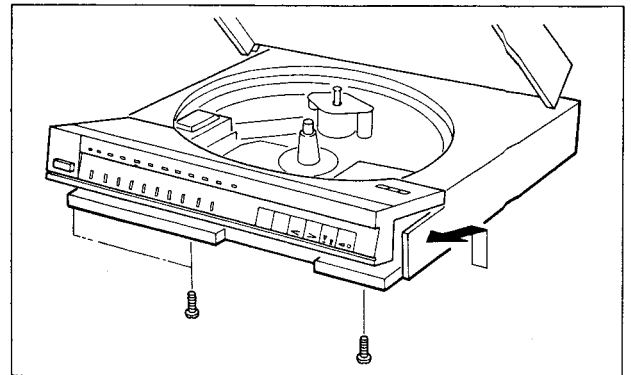

Fig. 5
3. Remove the escutcheon by lifting it up at an angle as shown in Fig. 5.